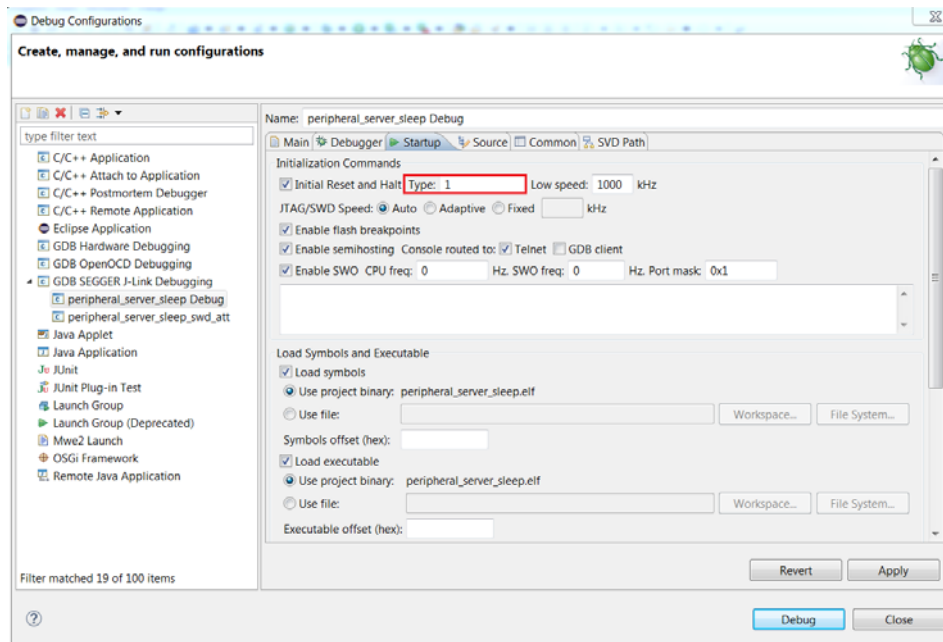
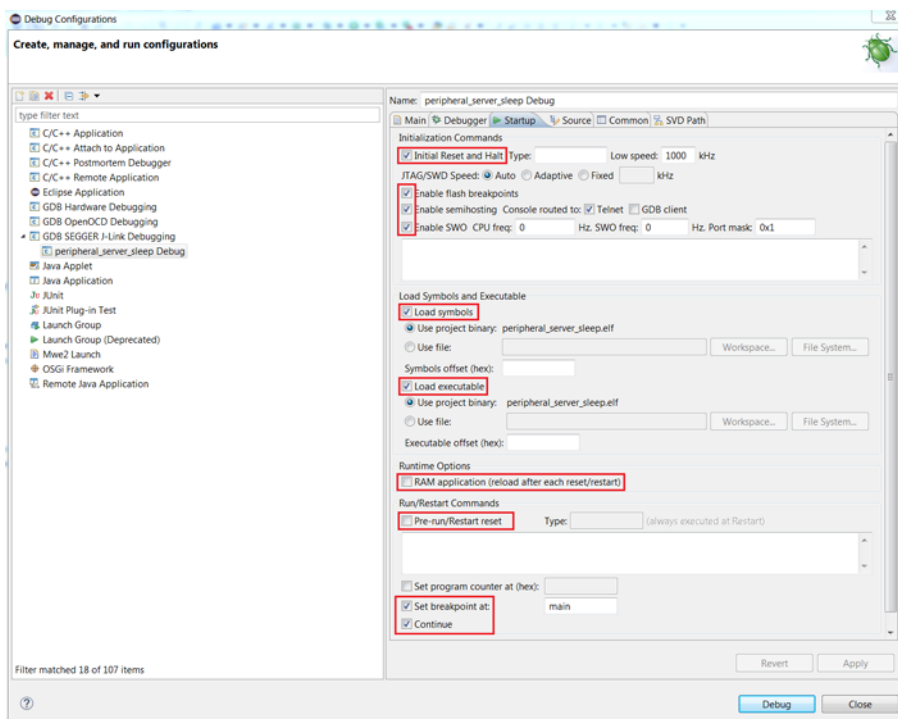

Figure 41. Setting Reset Type in the Debug Configuration Session
Figure 42. Startup Tab: Debug Session that Initiates Restart
- ii. Adjust the displayed values for your configuration and click on **Apply** (see Figure 41 and Figure 42 on page 35).
NOTE: If you are having trouble downloading firmware to the device, in addition to using DIO12, you can also perform the software recovery by setting the **Reset Type** to 1 in the **Debug** session configuration (see Figure 41). The default Reset Type is 0, which only resets the Arm Cortex-M3 core while leaving the device/peripherals in a state where J-Link can't reconnect. Setting the Reset Type to 1 ensures that not only is the Arm Cortex-M3 core reset, but so are all the peripherals. If this does not work, see Section 6.4.1, "Downloading Firmware in Sleep Mode" on page 40.